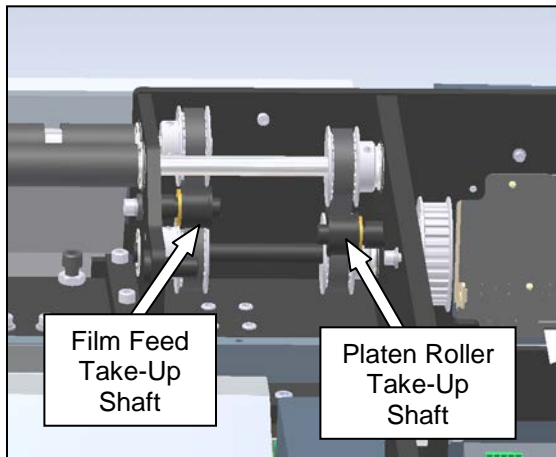

Figure 3-175. Belt Take-Up Shafts
- Loosen the film feed belt take-up shaft and the platen roller belt take-up shaft to create slack in these two belts (Figure 3-175).